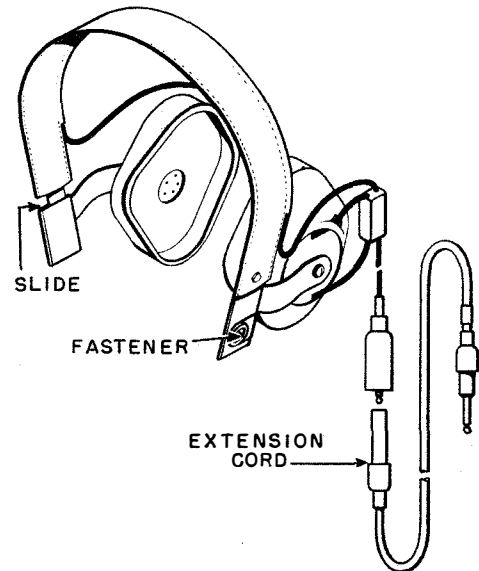

Figure 1-11. Headset CW-49507 and Extension Cord CW-49534
(1) HEADSET AND EXTENSION CORD.—A headset, Navy Type CW-49507, and headset extension cord, Navy Type CW-49534, are furnished with the equipment. The leather-covered band of the headset, which is illustrated in Figure 1-11, is adjustable in length; the earpieces are offset from the band. The headset unit has a resistance of 600 ohms, is splash-proof, and is fitted with snap fasteners for the attachment of a Navy Type CW-51071 lip microphone.